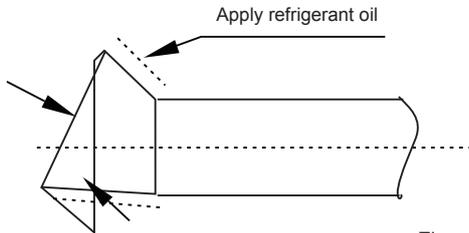

Figure 4.3
- ♦ Before the socket cap is installed on the pipe socket, apply some refrigerant oil on the socket (both inside and outside), and then rotate it three or four times before you tighten the cap. See Figure 4.3.